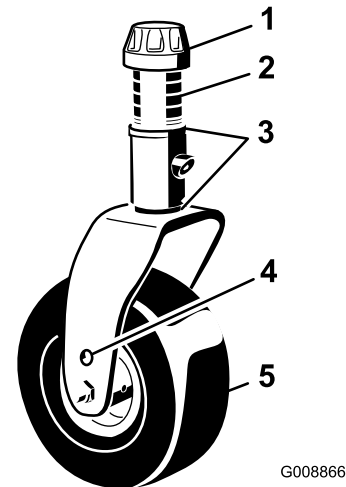

Figure 15
2. Position the castor-wheel axles in the same holes in all castor forks (Figure 15).
3. Remove the tensioning cap from the spindle shaft (Figure 15) and slide the spindle out of the castor arm.